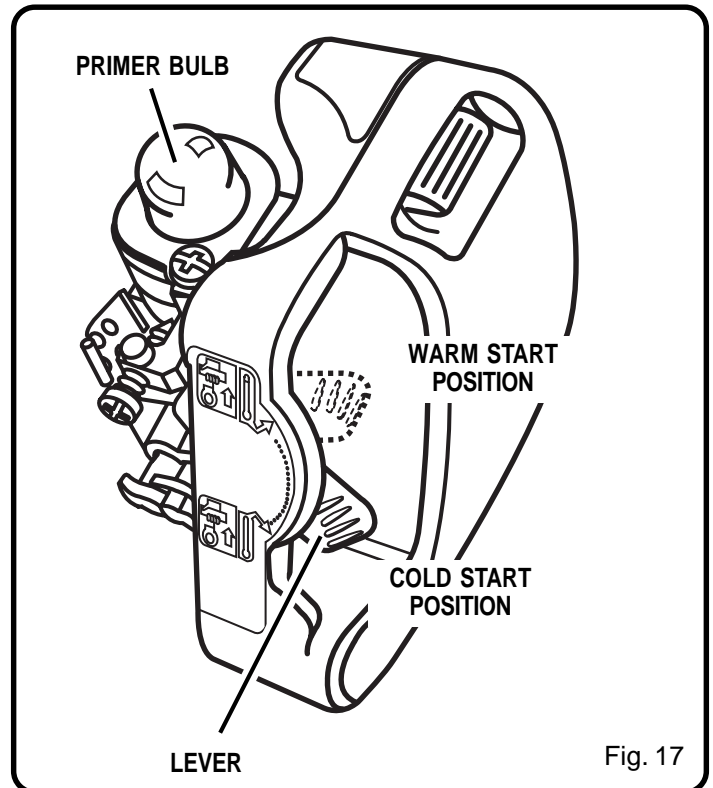

Fig. 17
- 3 Move the lever to the “**COLD START**” position. See Figure 17.